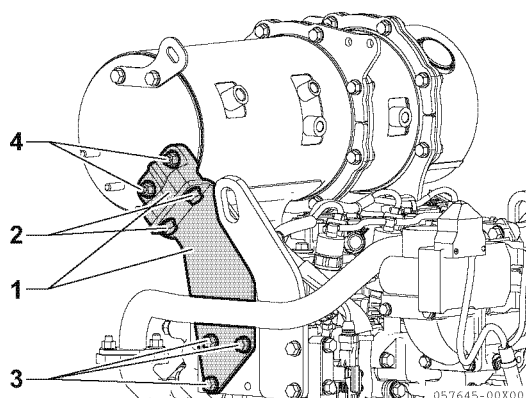

Figure 13-31
- Next, affix the DPF unit to the DPF stay on the flywheel housing side. First, slightly loosen the fixing bolts (**Figure 13-31, (2)**) in two locations on the DPF stay (**Figure 13-31, (1)**) so that these have some play and temporarily tighten the DPF unit stay fixing bolts (**Figure 13-31, (4)**). Next, temporarily tighten the DPF stay fixing bolts (**Figure 13-31, (2)**) until it seats, then fully tighten the DPF and stay fixing bolts (**Figure 13-31, (4)**). Lastly, fully tighten the DPF stay fixing bolts (**Figure 13-31, (2)**).
*Note: In principle, it is not necessary to loosen the fixing bolts (**Figure 13-31, (3)**) that affix the DPF stay to the engine, however adjust according to conditions.*